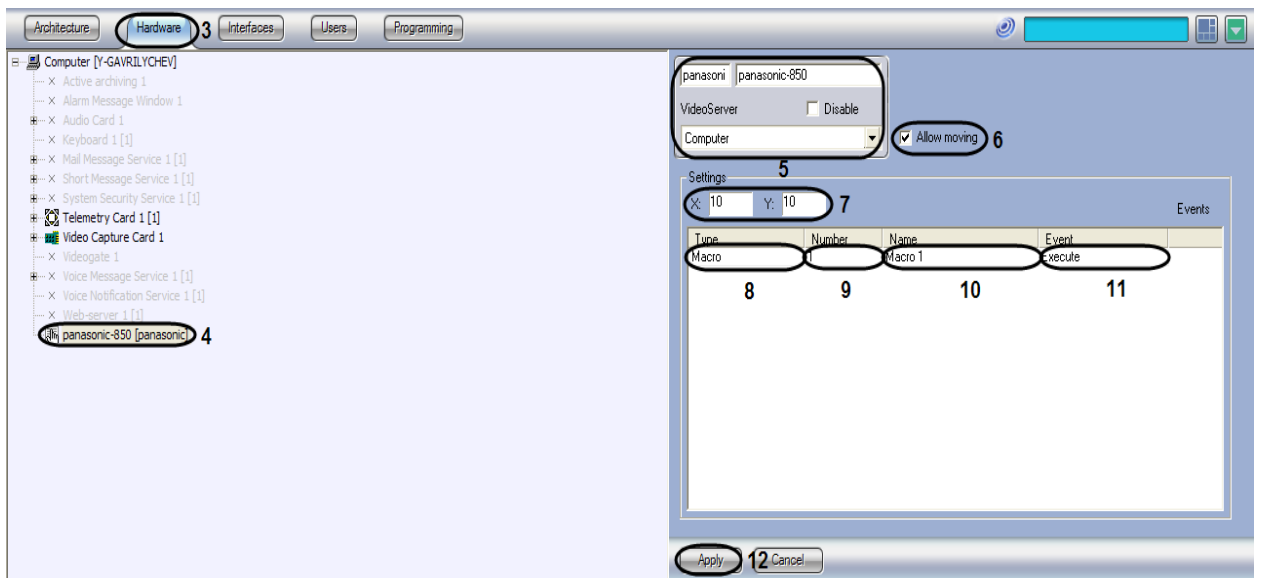
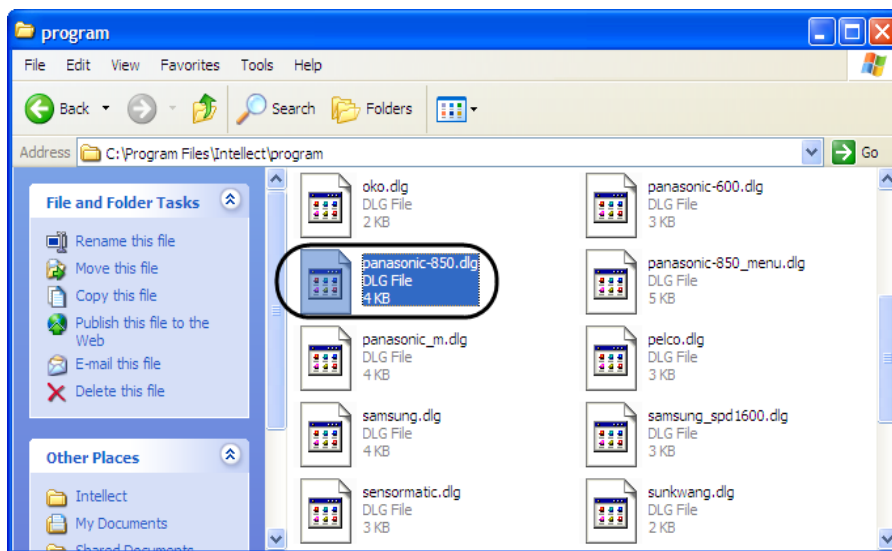

Figure 3.4-12 The setting panel of the Operator dialog box
Figure 3.4-13 The Program folder of the INTELLECT™ software installation directory
3. Open the **Hardware** tab in the **System settings** dialog box (Figure 3.4-12, 3).
4. Create the **Operator dialog box** object under the **Computer** object on the **Hardware** tab (Figure 3.4-12, 4).
5. Enter the file name (without extension) of the dialog box, used for PTZ device control, in the ID field (Figure 3.4-12, 5). The necessary files are stored in the **Program** folder of the INTELLECT™ software installation directory (Figure 3.4-13).
6. To activate the moving option for the **Operator dialog box** object, set the **Allow moving** checkbox (Figure 3.4-12, 6).
7. Enter the **X** and **Y** coordinates of the **Operator dialog box** position on the screen in the relevant fields. The **X** and **Y** settings correspond to the screen coordinates of the top left corner of the **Operator dialog box** and are measured as a percentage of the horizontal and vertical screen sizes correspondingly (Figure 3.4-12, 7).
8. Select the type of the **Macro** objects from the objects and events list (Figure 3.4-12, 8).
9. Enter the ID of the **Macro** object, created to call up the **Operator dialog box** (Figure 3.4-12, 9).
10. The name of selected **Macro** object is automatically displayed in the **Name** column (Figure 3.4-12, 10).
11. Select the **Execute** item from the list of possible events (Figure 3.4-12, 11).
12. To save the changes click **Apply** (Figure 3.4-12, 12).